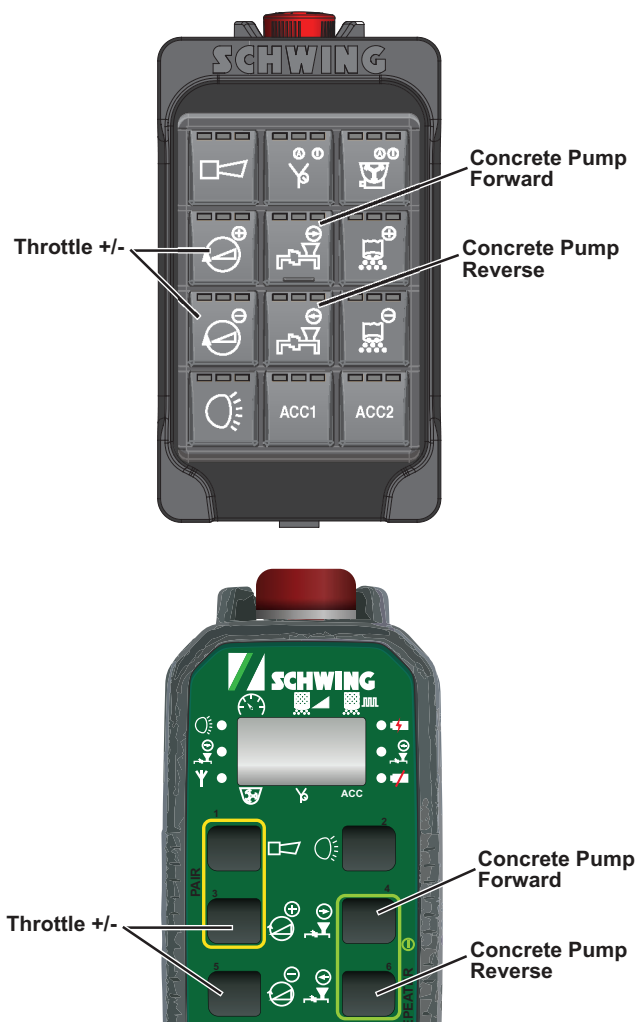

Figure 13
- With the cement washed to the bottom of the hopper, press the concrete pump forward and then reverse buttons (Figure 13) to cycle the rock valve back and forth a few times. This will agitate the mix a little more. Do not try to pump this mix until you can add concrete.
- Use the throttle increase and decrease buttons (Figure 13) to increase the engine RPMs to the specified maximum engine speed. Note: The ECU will not allow you to go above this limit.